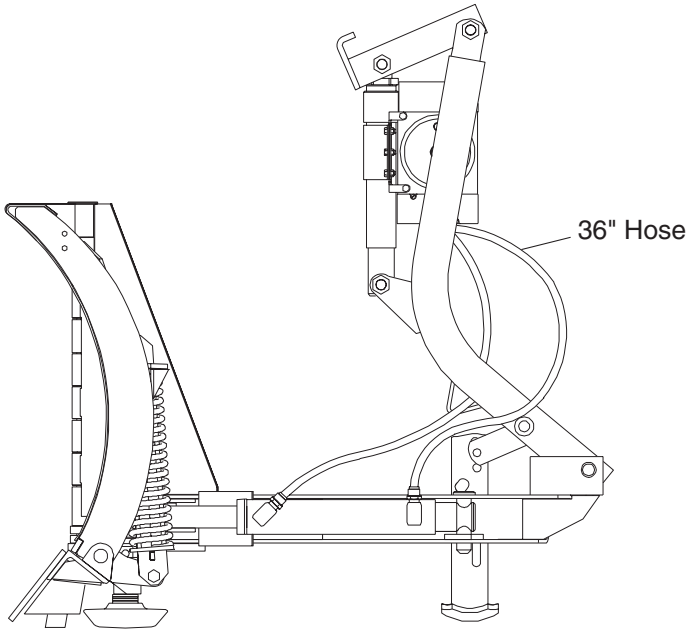

Figure 19
16. Attach a 36" hose to the fitting on the base end of each ram. (See Figure 19.)
17. Route base end hoses behind lift frame angles. (See Figures 19 and 20.)